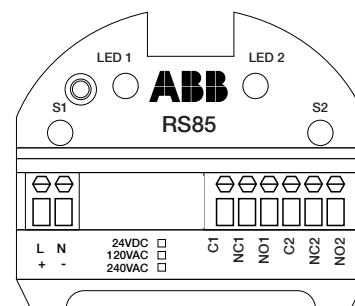

Figure 17
- Connect conduit between the switch and the supply source as required (figure 17 and 19). Be sure the conduit is suitable for the environment in which the units are to be used.